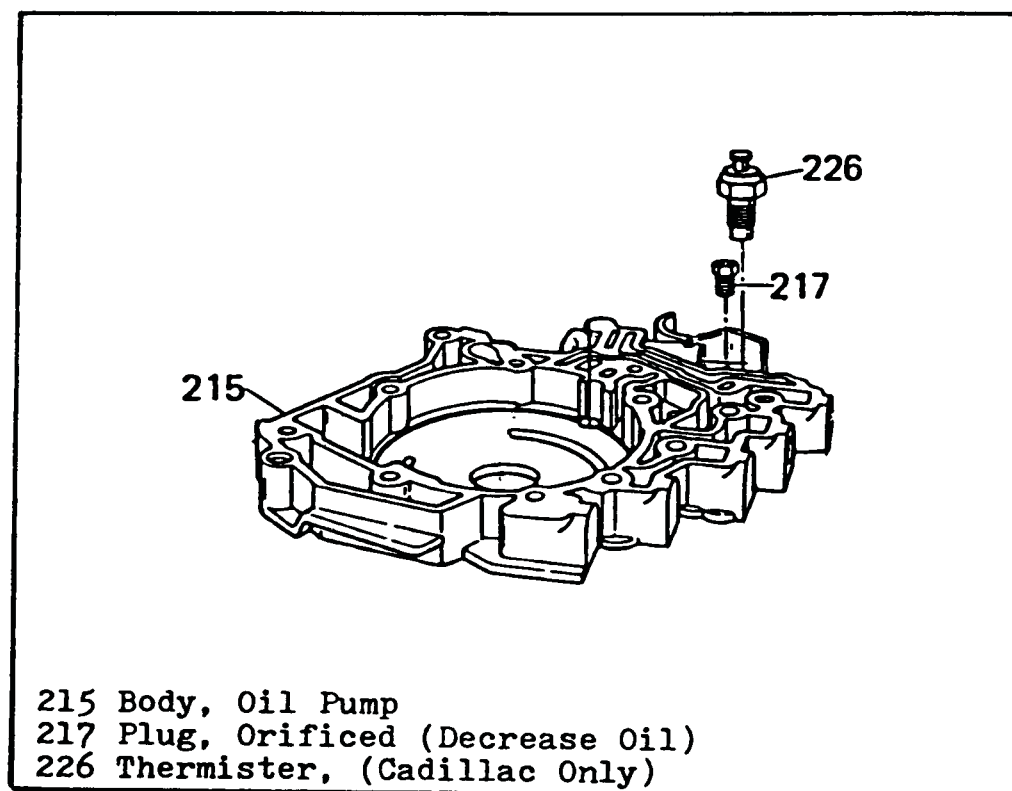
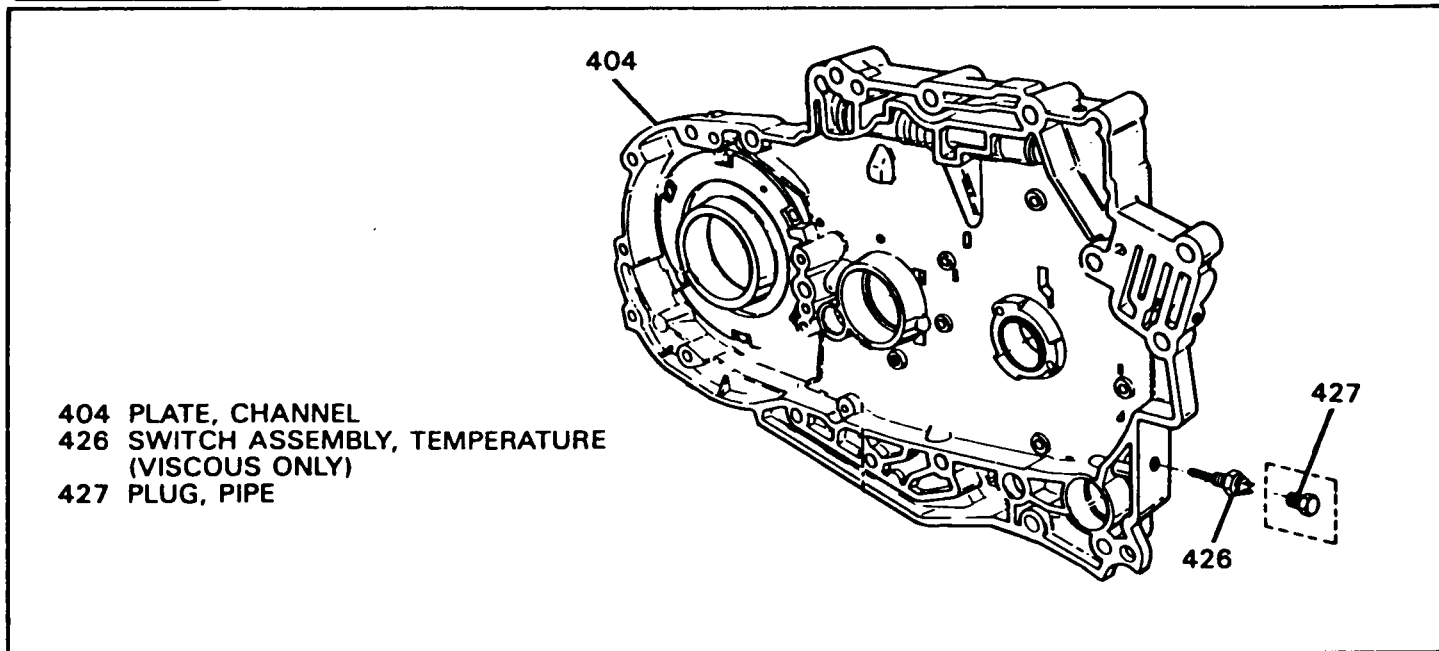

Figure 72
Figure 73
CHANGE: Thermister located in oil pump housing moved into cooler line (See Figures 72 & 74). Temperature switch in channel plate was also eliminated (See Figure 73).
- (1) Thermister - Removed from pump housing (See Figure 72).
- (2) Temperature Switch - Eliminated (See Figure 73).